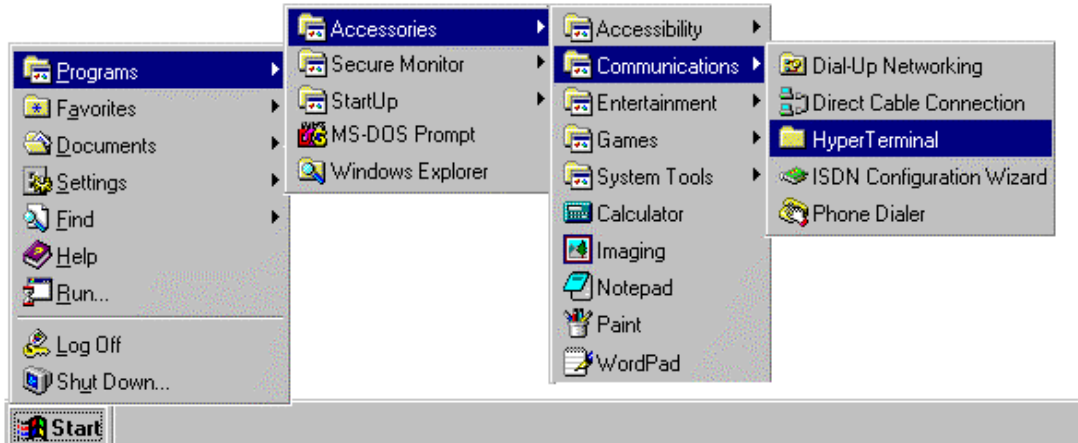

Figure 16 Accessing HyperTerminal from the Start Menu
Step 1: On the computer's desktop, click the **Start** button. The Start menu will appear (Figure 16).